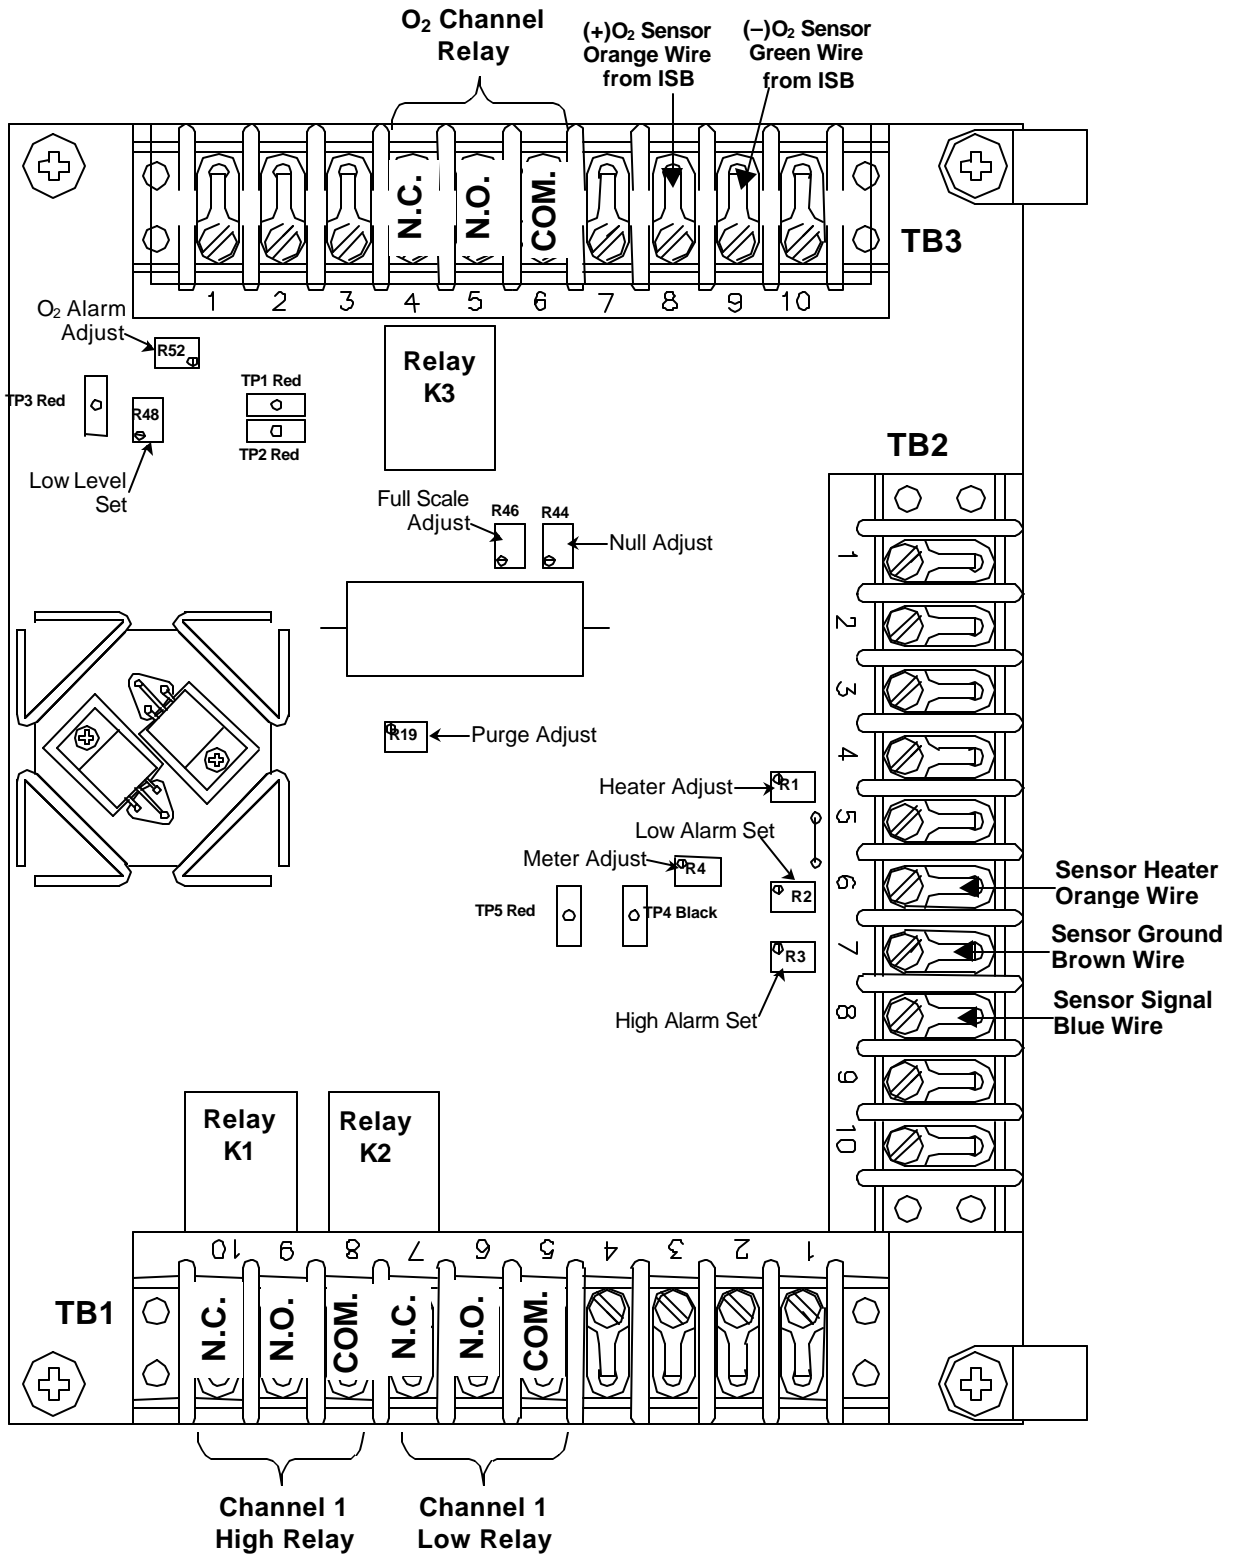

Figure 3: Circuitry PC1 Channels 1 and 2
2. Insert each set of sensor wires through a conduit; install with a watertight fitting and tighten the fitting by hand. Be sure to leave enough wire inside the enclosure for easy hook-up to terminals. The location of terminals corresponding to each sensor is shown in Figure 3, 4 and 7.
Heating the sensor promotes the oxidation reaction on the element surface. The temperature to which the sensor element is heated determines the selectivity of the equipment to certain gases. A chart, located inside the instrument front panel, specifies the voltage for each sensor. Refer to **Figures 3 and 4** for potentiometer locations.